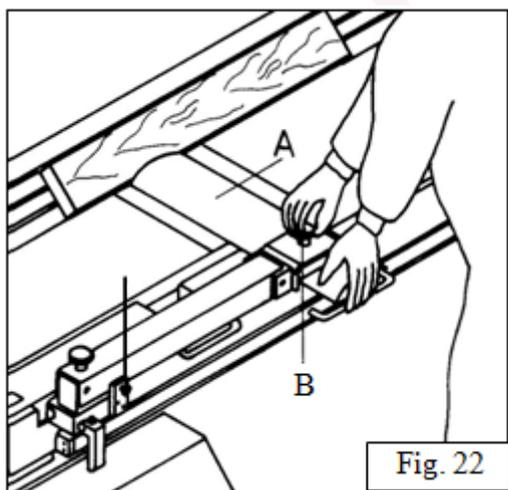

Fig. 22
*Smoothing under inclination or bevel /fig. 22/*
- The piece and the guard of the cutting shaft are positioned as shown on fig. 22.